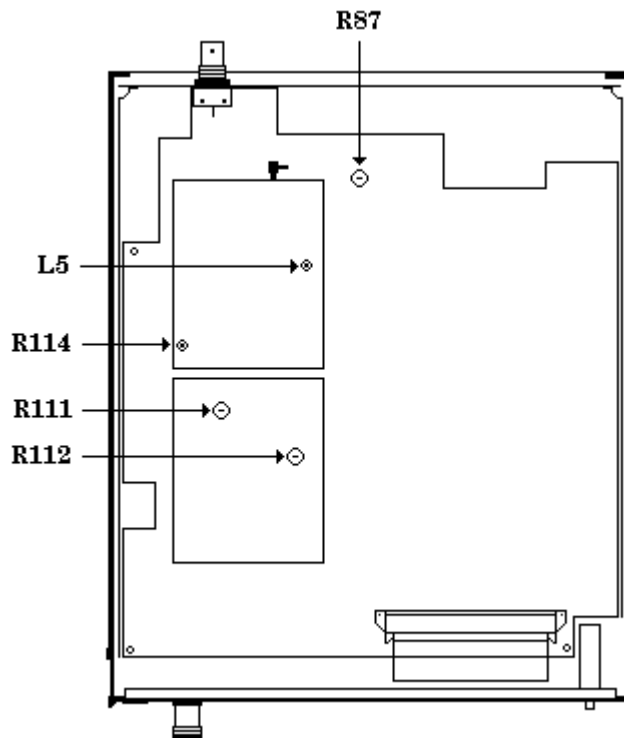

Figure 1. Adjustment locations - test instrument bottom view.
(4) Press **FUNCTION ZERO** key and wait approximately 15 seconds for **ZEROING: ******* display to disappear.
(5) Set range calibrator **FUNCTION CALIBRATE/STANDBY** switch to **CALIBRATE**.
(6) Press **FUNCTION SHIFT** key then **FUNCTION CAL/ZERO** key.
(7) Press **DATA ENTRY** \uparrow , \downarrow , \leftarrow , \rightarrow keys until **REF CF 100.0%** is displayed.
(8) Press **DATA ENTRY ENTER** key. TI will display **CAL ******* for a few seconds.
(9) Press **FUNCTION SHIFT** key then **FUNCTION CAL FAC/FREQ** key.
(10) Press **DATA ENTRY** \uparrow , \downarrow , \leftarrow , \rightarrow keys until **CALFAC 100.0%** is displayed.
- (11) Press **DATA ENTRY ENTER** key.
- (12) Adjust R87 (fig. 1) for a maximum TI indication (R).
- (13) Set range calibrator **RANGE** switch to **10 mW**.
- (14) Adjust R111 (fig. 1) for a TI indication between 9.99 and 10.01 mW (R).
- (15) Set range calibrator **RANGE** switch to **100 mW**.
- (16) Adjust R112 (fig. 1) for a TI indication between 99.9 and 100.1 mW (R).
- (17) Repeat (13) through (16) above until no further adjustments are required.
(1) Adjust L5 (fig. 1) for a frequency counter indication between 49.5 and 50.5 MHz (R).
- (1) Adjust R114 (fig. 1) slightly and repeat **11a** above until calculated power reference oscillator output level is between 0.988 and 1.012 mW (R).